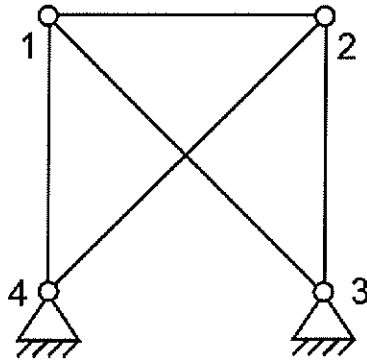

Figure 2
2. In the pin-jointed framework shown in Figure 2 all members have constant cross section area A , Young's modulus E and coefficient of thermal expansion α . All horizontal and vertical members have initial length L , and both diagonal members are oriented at 45° to the horizontal axis.
- (a) Confirm that the structure shown in Figure 2 is statically-indeterminate with one redundancy. [5%]